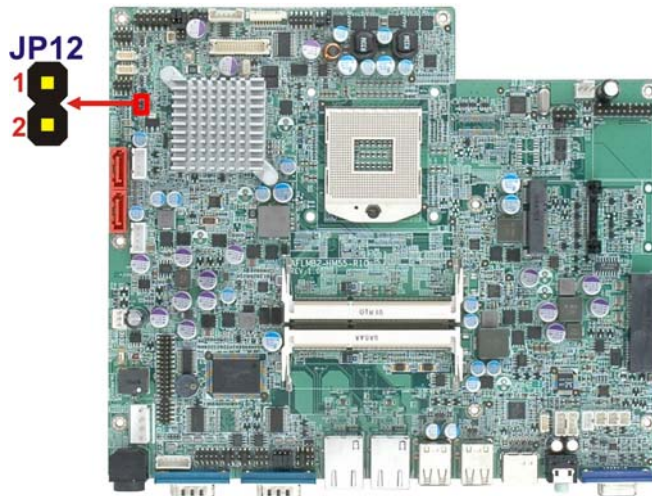

Figure 3-12: ME Debug Mode Jumper Location
- Jumper Location:** See Figure 3-12
The ME Debug Mode jumper location is shown in **Figure 3-12**.